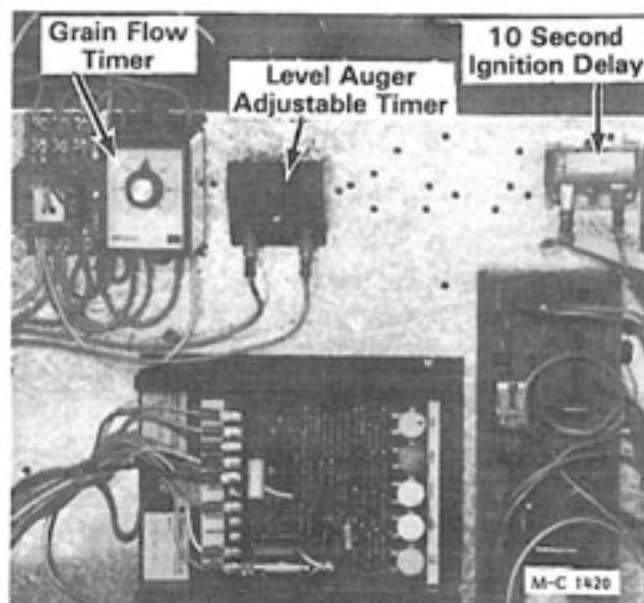

Figure 25
There is an adjustable .1 to 8 minute delay in the level auger circuit, see Figure 25. It is activated when the level and fill auger switch is in the AUTOMATIC position and the level auger light is calling for grain.
The Grain Flow Timer, Figure 25, will shut the dryer down if there is an insufficient grain supply to fill the hopper. When the level auger starts, the Grain Flow Timer will be activated. When the timer counts down to zero, the dryer will shut down and the Grain Flow light will come on.
2. Flip the level auger switch to the AUTOMATIC position. Turn the timer control knob, Figure 25, to 30 minutes. The level auger will start after the .1 to 8 minute delay if the level auger light is on calling for grain.
4. Average the 6 refill times and reset the Grain Flow Timer, Figure 25, to run 5 minutes longer. For example, if it takes the level auger an average of 5 minutes to refill the dryer, set the Grain Flow Timer to run 10 minutes.